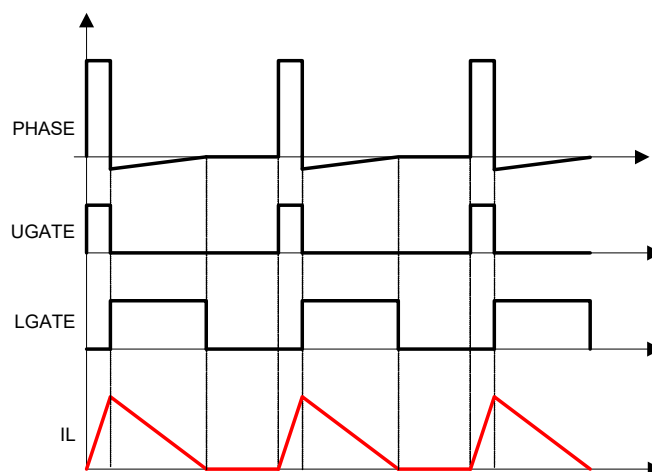

Figure 39. Diode Emulation
The R3 modulator can operate in Diode Emulation (DE) mode to increase light-load efficiency. In DE mode, the low-side MOSFET conducts when the current is flowing from source-to-drain and does not allow reverse current, which emulates a diode. As shown in Figure 39, when LGATE is on, the low-side MOSFET carries current and creates negative voltage on the phase node because of the voltage drop across the ON-resistance. The IC monitors the current by monitoring the phase node voltage. It turns off LGATE when the phase node voltage reaches zero to prevent the inductor current from reversing the direction and creating unnecessary power loss.
If the load current is light enough, as Figure 39 shows, the inductor current reaches and stays at zero before the next phase node pulse, and the regulator is in Discontinuous Conduction Mode (DCM). If the load current is heavy enough, the inductor current never reaches 0A, and the regulator is in Continuous Conduction Mode (CCM) although the controller is in DE mode.